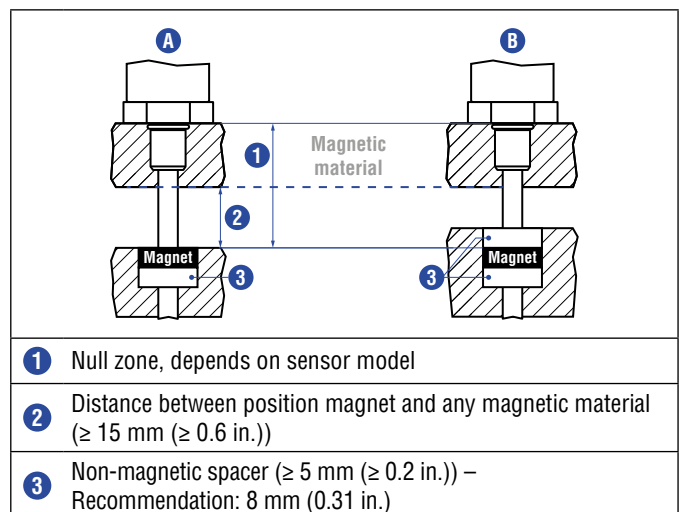

Fig. 37: Installation with magnetic material
- Minimum distance between position magnet and any magnetic material has to be 15 mm (0.6 in.) (Fig. 37).
- If no other option exists and magnetic material is used, observe the specified dimensions (Fig. 37).
When using magnetic material the dimensions of Fig. 37 must be observed.